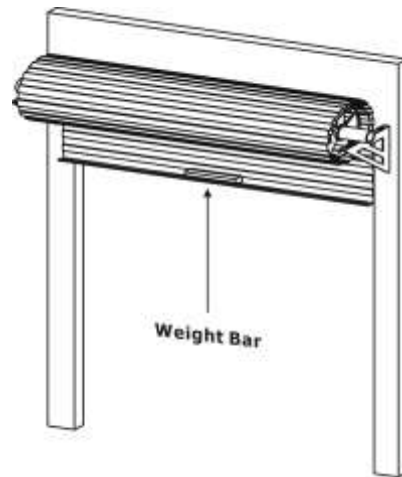

Fig 12
- 5.1 Fit the weight bar to the top edge of the garage door bottom rail as depicted in Fig.12